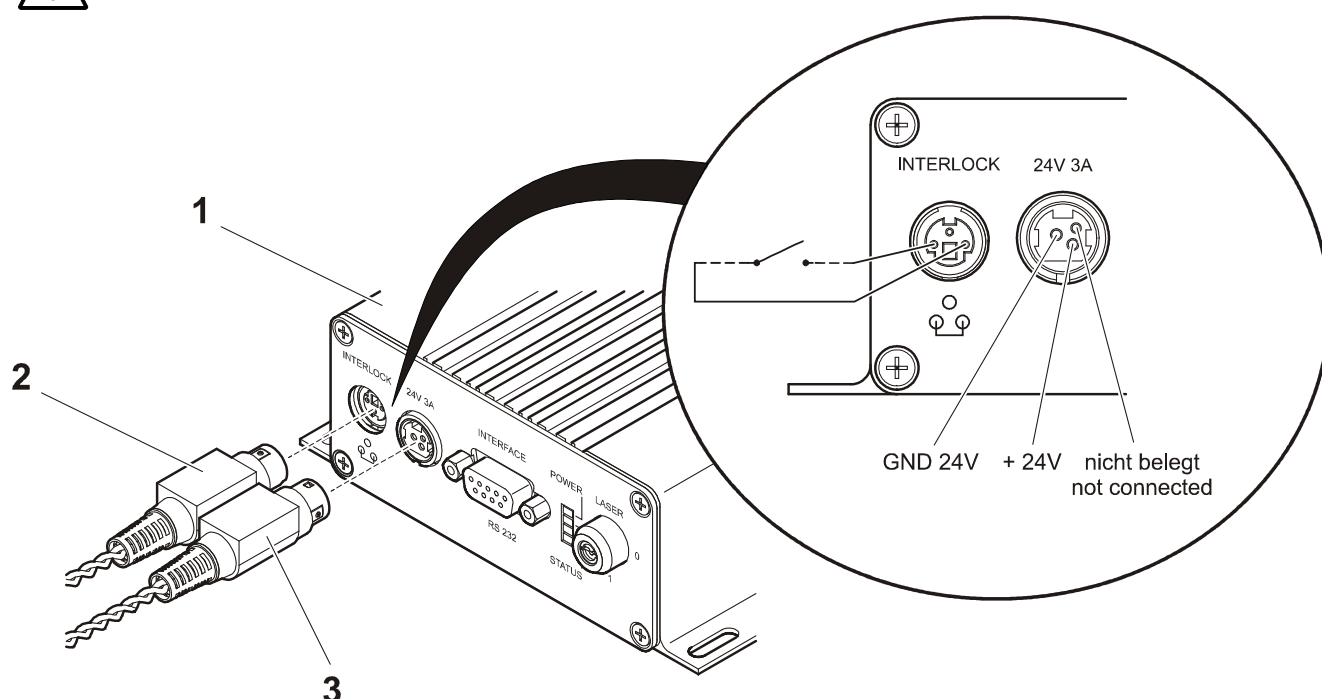

Fig. 9 CKL 2400, connector for operating voltage and interlock
- Connect the power supply to the control unit (Fig. 9/1) by means of male connector KPP-3P (KYCON) (Fig. 9/3). Pay attention to the connected loads from the data sheet of the control device. Connect every laser module used to a separate power supply, if possible.
- Connect the safety interlock circuit to the control unit (if INTERLOCK provided) by means of male connector KMDLA-3P (KYCON) (Fig. 9/2).